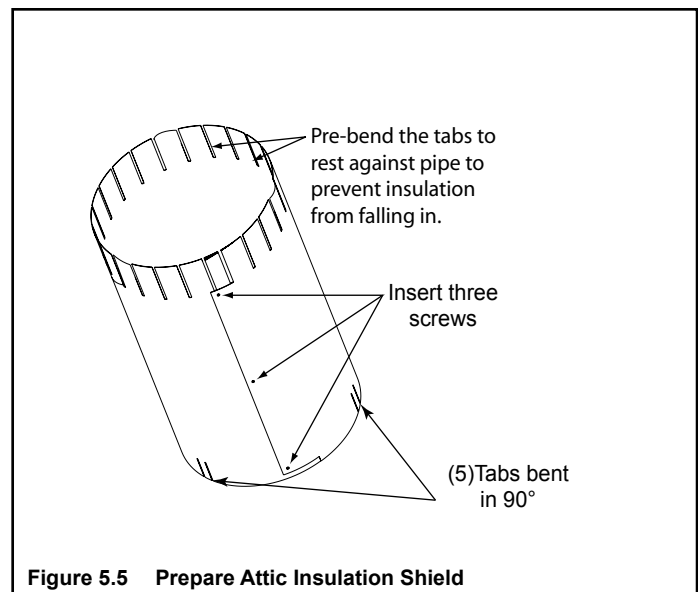

Figure 5.5 Prepare Attic Insulation Shield
- Refer to Figures 5.5, 5.6, 5.7.